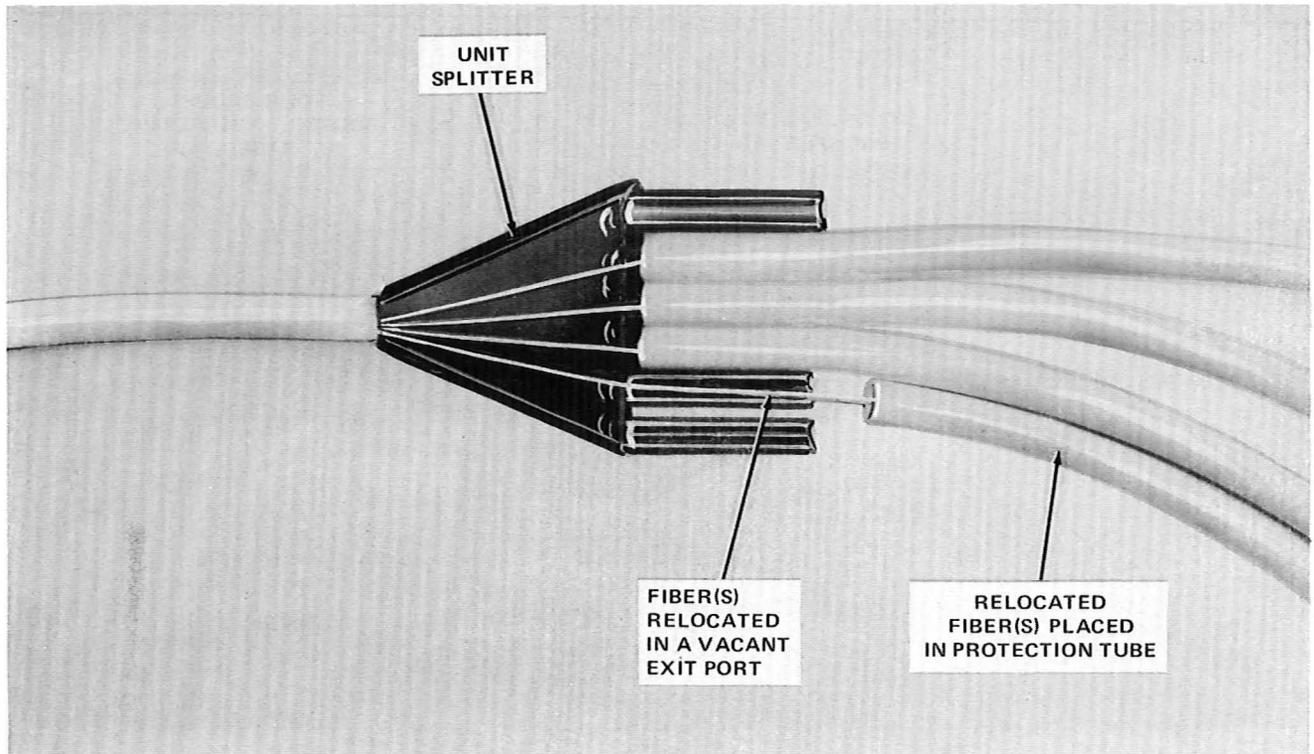

Fig. 58—Relocated Fibers Placed in Vacant Exit Port
8.06 Place the removed fiber(s) into a protection tube of equal length. Select a vacant exit port and place the fibers into the slot in the port, as shown in Fig. 58. Slide the protection tube onto the exit port.